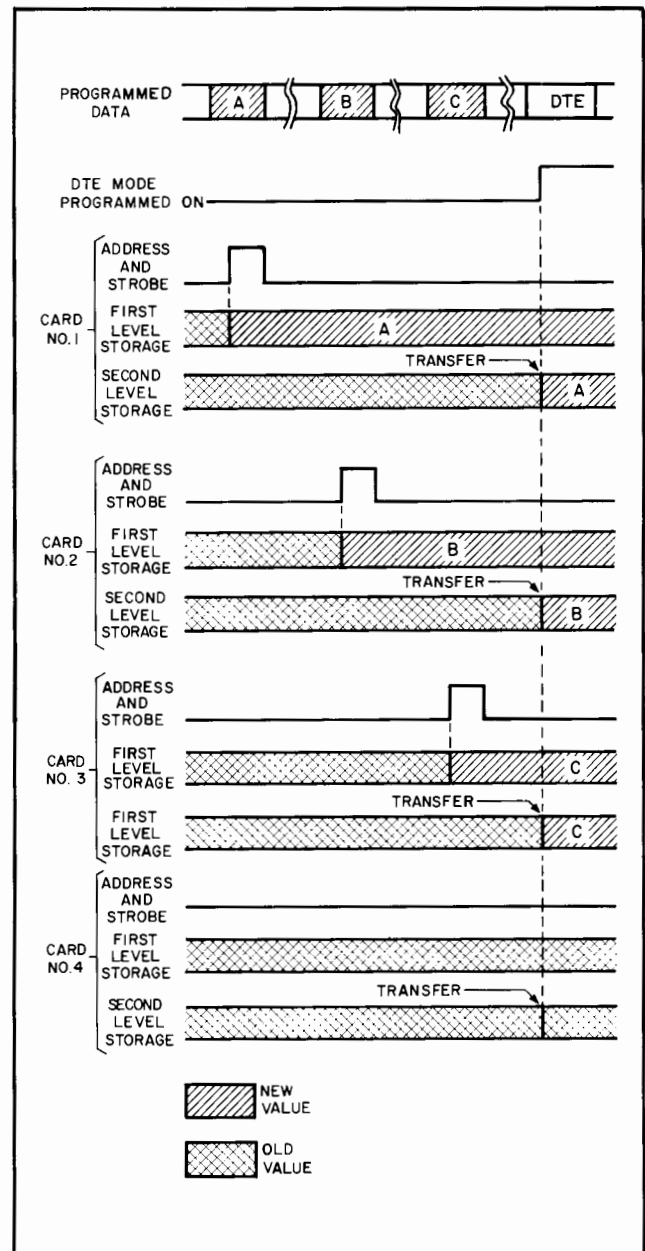

Figure 3-2. DTE Mode, Timing Diagram
(1) DTE is Selected and Held. With this method, each time a 69321B card is addressed and data strobed, the programmed data designated for that card is entered into the first level storage registers and immediately transferred to the second level registers and then to the output D/A conversion circuits. An addressed card will thus produce an analog output proportional to the programmed data, as it receives the data.
(2) DTE is Programmed After Cards are Addressed. This method permits the output of any number of 69321B cards to be changed to a new programmed value simultaneously. The timing diagram in Figure 3-2 illustrates this procedure. Cards 1, 2, and 3 are sequentially loaded with new data A, B, and C, respectively; card 4 is not addressed and consequently retains the old programmed value in its first level storage registers. Now, when DTE is programmed on, it transfers the first-level data to the second-level registers and from there to the D/A conversion circuits. For cards 1, 2, and 3, their analog outputs simultaneously change to the new value. For card 4 (and all other cards not addressed), the output value remains the same, since the old programmed value is simply re-transferred to the second level registers.